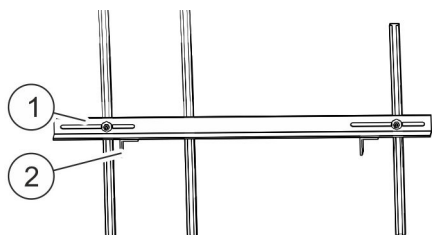

Fig. 32: Top mounting part
- 4. ➔ Lightly bolt on the connection plates for the pulley mounting with one hexagon bolt each, inserted from the outside of the mounting part (Fig. 32/2).